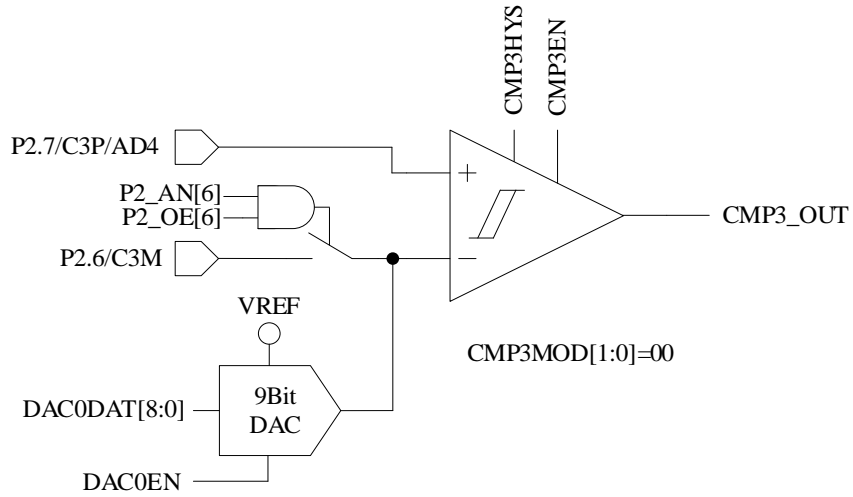

Figure 28-2 Single-comparator Input Mode
- When CMP_CR1[CMP3MOD] = 00, CMP3 works in Single-comparator Input Mode. The connection of input and output pins are shown in Figure 28-2.